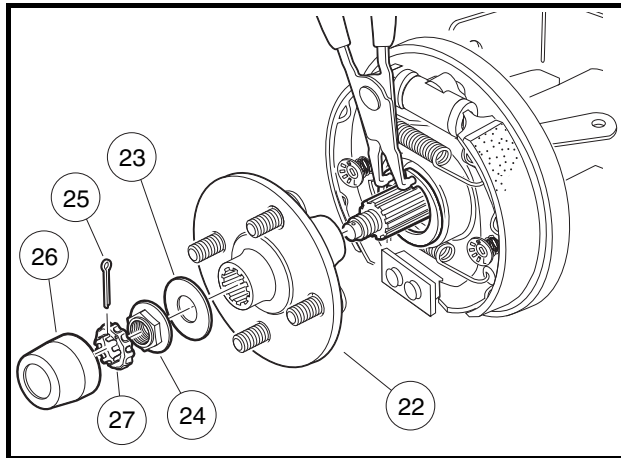

Figure 16-5 Axle Retaining Ring Pliers
5. To remove the wheel bolt flange on the MC012C transaxle (**Figure 16-5, Page 16-4**):
6. Use a 90° internal snap ring pliers (0.090-inch tip) to remove internal retaining ring from axle tube (**Figure 16-5, Page 16-4**).
5. Install the wheel bolt flange (22) on the MC012C transaxle (**Figure 16-5, Page 16-4**). **See following NOTE.**